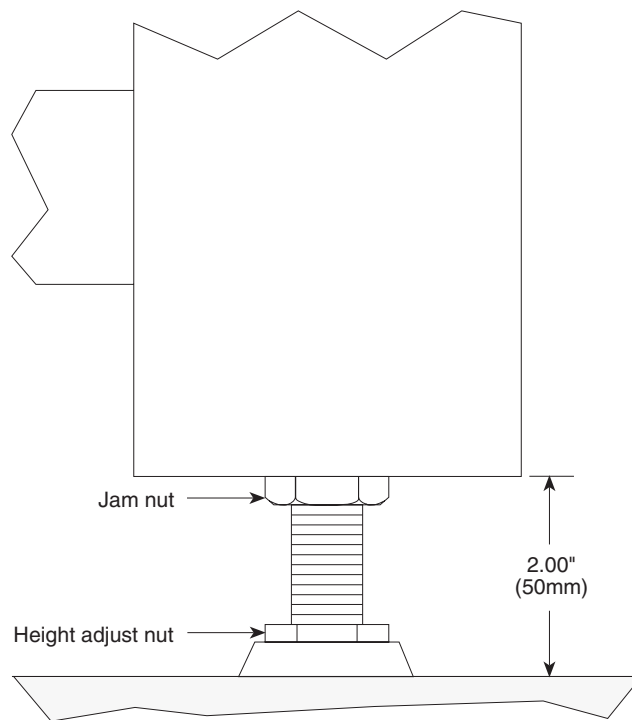

Figure 2.1 — Leveling Pad Adjustment
- B. Adjust the leveling pads on the bottoms of the legs (Figure 2.1). Rotate the pads until the bottom of the pad extends 2 inches from the bottom of the frame.
- A. Adjust the four leveling pads (Figure 2.1) until the table top contacts evenly on all four of the legs and does not rock when pressed down on at any of the four corners.